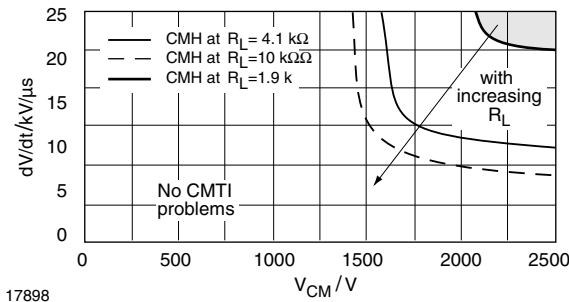

Fig. 22 - Typical CM_H Characteristics for the High CMTI Rated Optocouplers
- Choose a low-value pull-up resistor should be chosen to a low value (compare with figure 22)